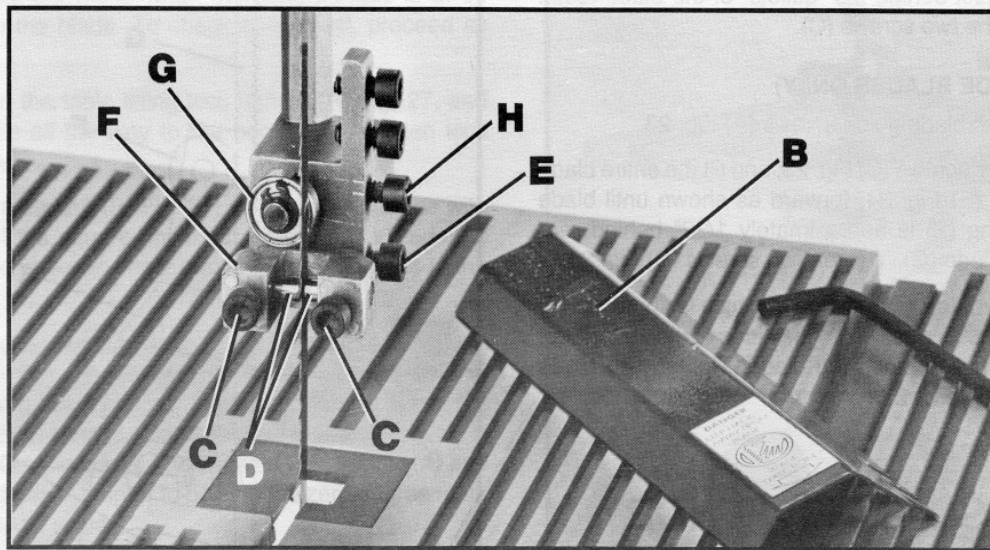

Fig. 22
2. **NOTE:** Upper blade guard (B) Fig. 22, is shown removed for clarity.
3. Loosen the two screws (C) Fig. 22, and adjust the blade guides (D) as close as possible to the sides of the saw blade, being careful not to pinch the blade. Then tighten the two screws (C).
4. Loosen screw (E) Fig. 22, and move the guide bracket (F) in or out until the front edge of the guides (D) is just behind the "gullets" of the blade teeth. Then tighten screw (E).
The upper blade support bearing (G) Fig. 22, prevents the saw blade from being pushed back too far when cutting. The support bearing (G) should be adjusted approximately 1/32" behind the rear edge of the blade, as follows:
1. Loosen screw (H) Fig. 22, and slide support bearing (G) in or out until it is approximately 1/32" behind the rear edge of the saw blade. Then tighten screw (H).